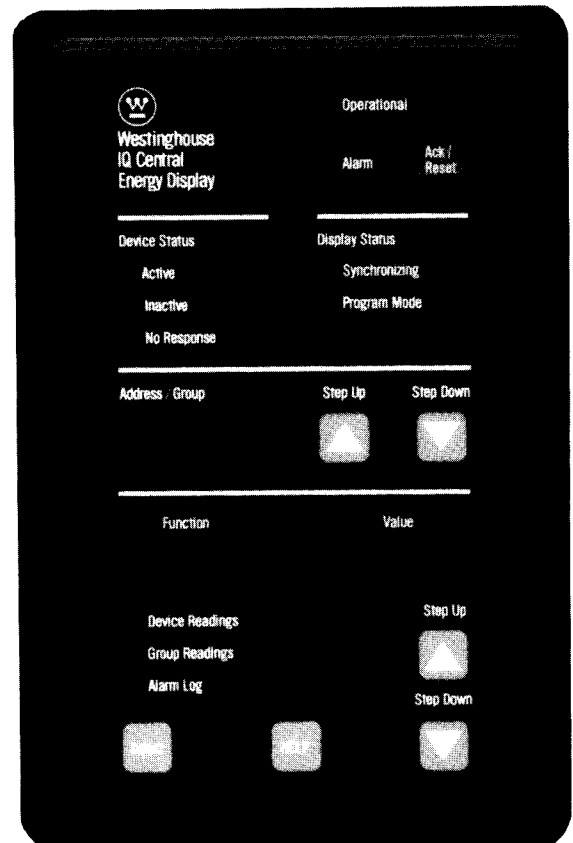

Figure 2.2
**2.1.1 Operator Panel** — The operator panel (see Figure 2.2) is accessible from the outside of the panel or door, and provides a means to: